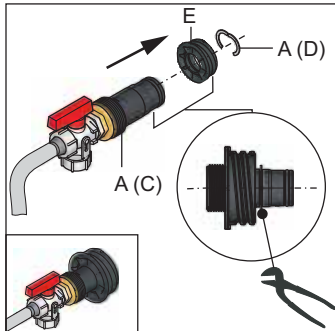

Fig. 5-3 Assembling the KFE filling connection
- Insert the **KFE filling connection** into the threaded piece (figure 5-3, item E) and secure it using a clamping piece (figure 5-3, item D).